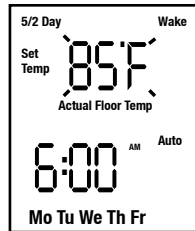

Figure 16
3. The Setpoint temperature digits will start to flash, see Figure 16. Press the Up or Down button to set the Setpoint temperature. Press the Back/Cancel button once to go back to the Wake time setting. Press the Next/Save button once to accept the correct Setpoint temperature setting and then it will continue to the next event setting.
3. The Setpoint temperature digits continue to flash, see Figure 16. Press the Up or Down button to set the Setpoint temperature. Press the Back/Cancel button once to go back to the Wake time setting. Press the Next/Save button once, and it will continue to the next event setting.